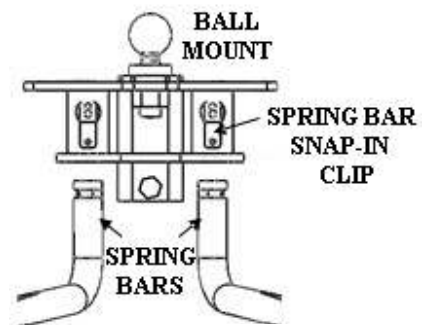

Figure 5
4. Attach Chains (8) to Spring Bars (6) allowing 2-3 threads to protrude below Flat Washers (8d) and Locknut (8c). Chain should hang free without any of the links binding.
7. Snap Spring Bars into the Spring Bar sockets from underneath the Ball Mount (1). (See Figure 5). Place spring bar through socket and push up. The Spring Bar will lock in place. To make sure bar is locked into place, pull up on the other end of the bar and bar should not remain in place. (Spring Bars can be removed by pulling out on the Spring Bar Snap-In Clip (14) or by rotating the bar under the bumper to drop out freely).
8. Mount Rapid Hook-Up bracket on frame. Locate correct position by holding chain straight up to the chain hook on the bracket. Make sure the chain does not bind or twist and tighten Set Screw (14) 1/4 turn only.